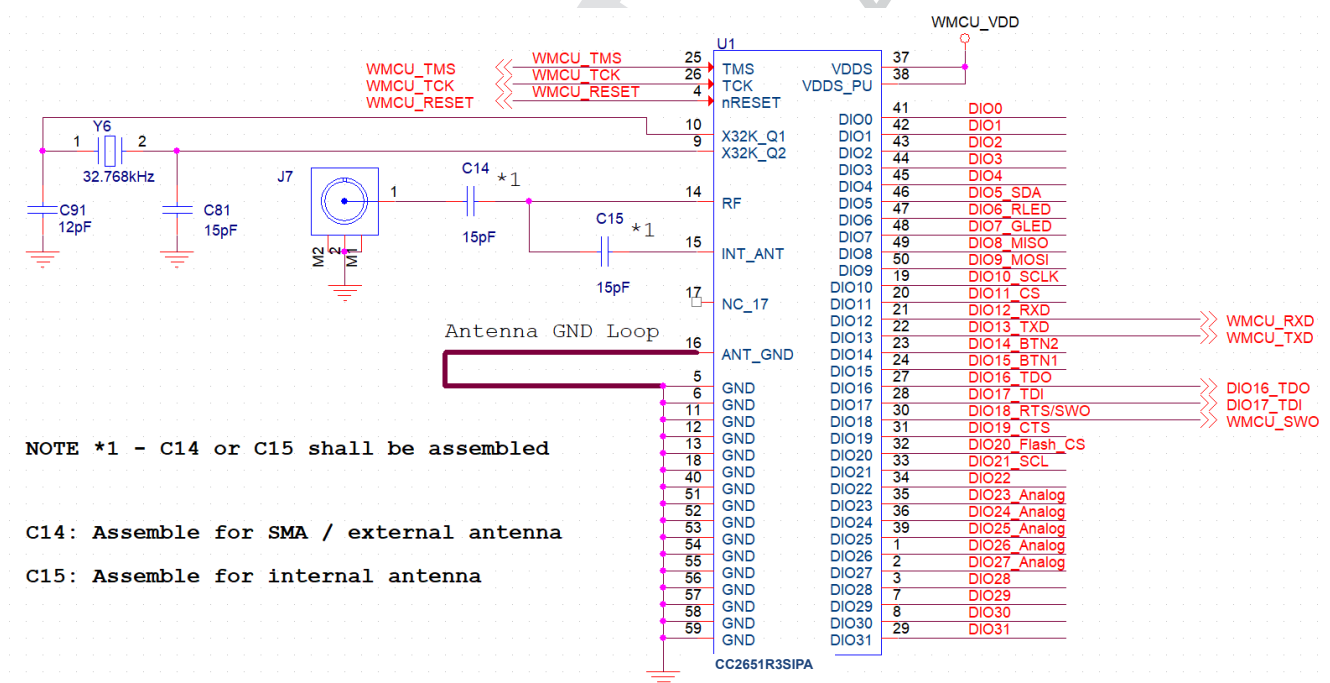

Figure 10-1. CC2651R3SIPA Typical Application Schematic
Figure 10-1 shows the typical application schematic using the the CC2651R3SIPA module. Note that C15 should be assembled when using the integrated antenna option within the module. C14 should be assembled if the module is to be used with an external antenna. In addition if using the external antenna option, Pin 16 of the module can be left unconnected. For the full reference schematic, download the LP-CC2651R3SIPA Design Files.
Table 10-1 provides the bill of materials for a typical application using the CC2651R3SIPA module in Figure 10-1.
In order to meet the module power-on-reset requirements, VDD5 (Pin 37) and VDD5_PU (Pin 38) should be connected together. If the reset signal is not based upon a power-on-reset and is derived from an external MCU, then VDD5_PU (Pin 38) should be No Connect (NC). Please refer to Figure 10-1 for the recommended circuit implementation.